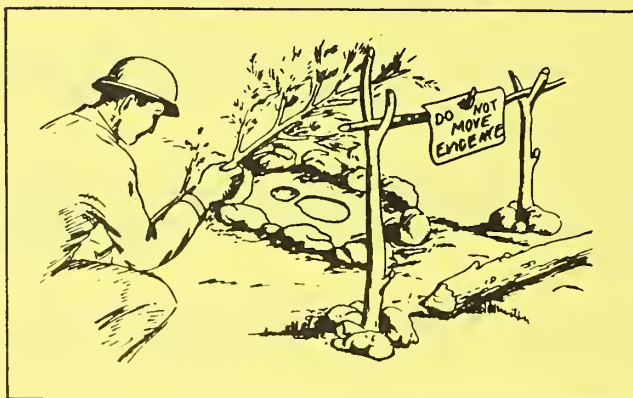

Figure 1.--Protecting evidence.
23.7 - Collection of Evidence. En route to the fire, make note of anyone suspected of having had something to do with starting the fire. Record license number and description of automobile, number of people and personal descriptions; look for tracks or other clues (foot, horse, or automobile) in the vicinity of the fire. Preserve and protect clues in place if possible for future reference; and protect tracks by blocking off or covering with logs, brush, or limbs (figure 1). In many areas where person-caused fires are a problem, the firefighter's work will be followed by another individual, such as a skilled investigator.